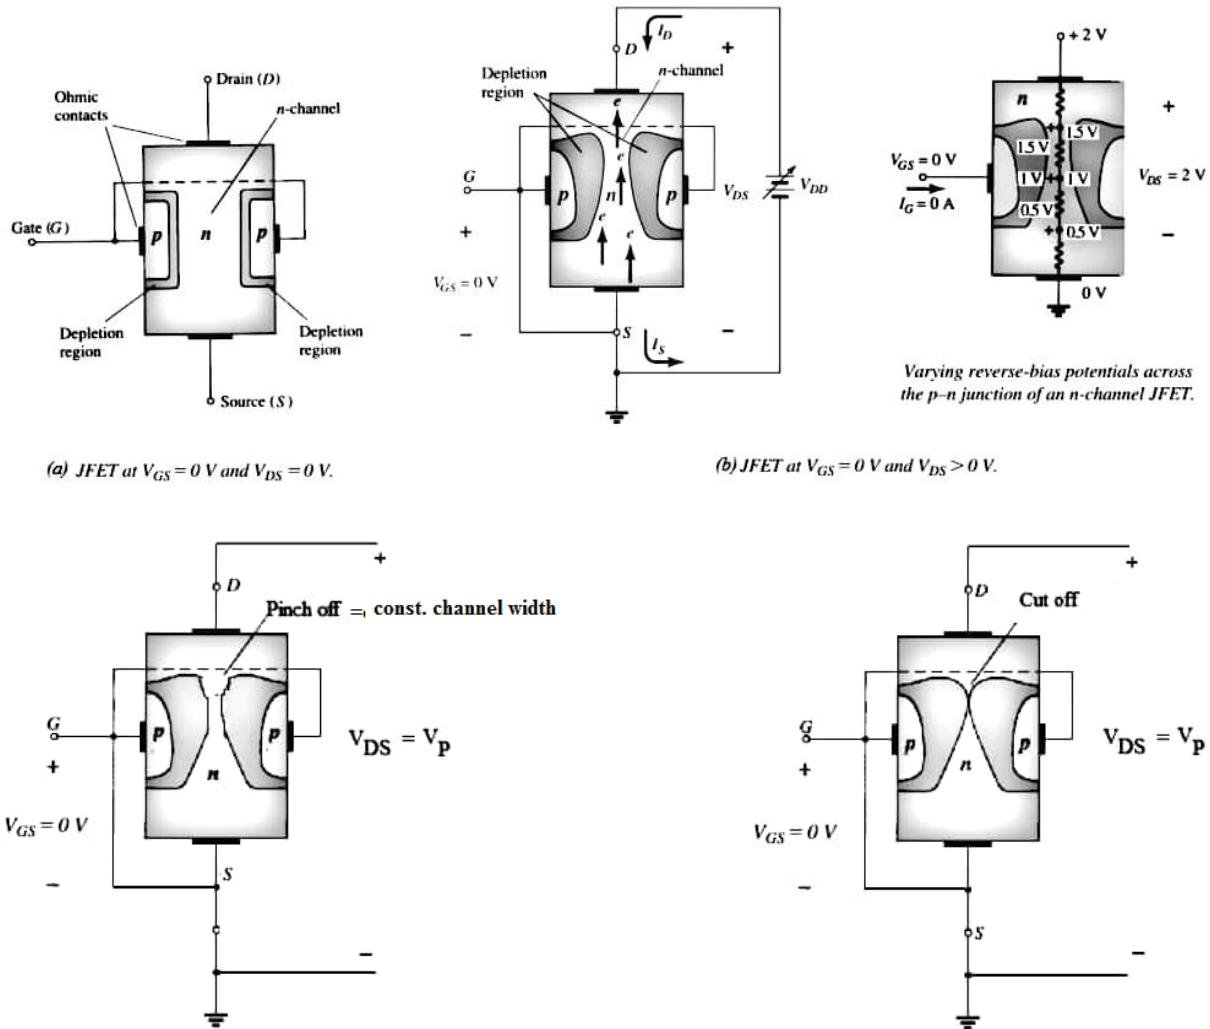

Figure 3.4 Working of JFET
- (i) When no bias is applied on the gate (i.e. $V_{GS} = 0$) as well drain (i.e. $V_{DS} = 0$),the depletion layer around the PN junction are of equal thickness and symmetrical (Figure 3.4(a)).
- (ii) When a voltage V_{DS} is applied between drain and source and no bias is applied on the gate (i.e. $V_{GS} = 0$) drain current starts flowing causes a uniform voltage drop across the channel resistance from terminal D to terminal S which results greater reverse biases at the drain end than that of source end .hence the wedge shaped depletion layer formed and channel becomes narrower at the drain end.(Fig.)The size of the depletion layer formed determines the width of the channel hence the magnitude of drain current (Figure 3.4(b)).
because $V_{GS} = 0$ and the width of channel remains constant in this region. (Figure 3.4(c)).
- (iv) When a voltage V_{DS} is applied between drain and source and a reverse voltage V_{GS} is applied between the gate and the source (Figure 3.4(d)) the width of the depletion layer is increased subsequently the width of conducting channel is decreased, hence the drain current is reduced. If the reverse bias is further increased, at certain value depletion layer meet at the center and the drain current I_D is cutoff completely.